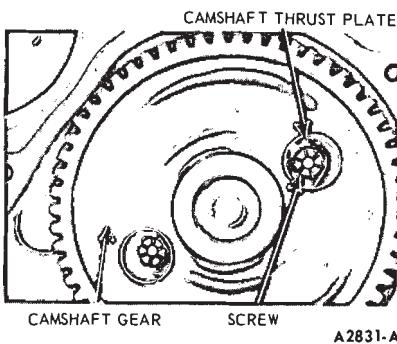

FIG. 28—Removing or Installing Camshaft
10. Turn the crankshaft to align the timing marks as shown in Fig. 26. Remove the camshaft thrust plate screws (Fig. 28).